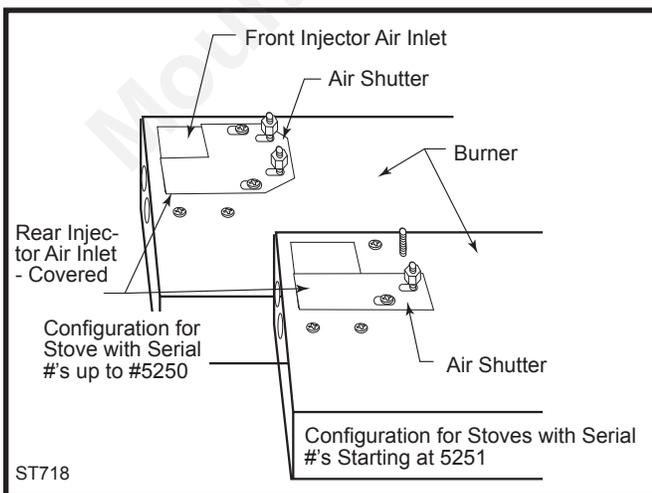
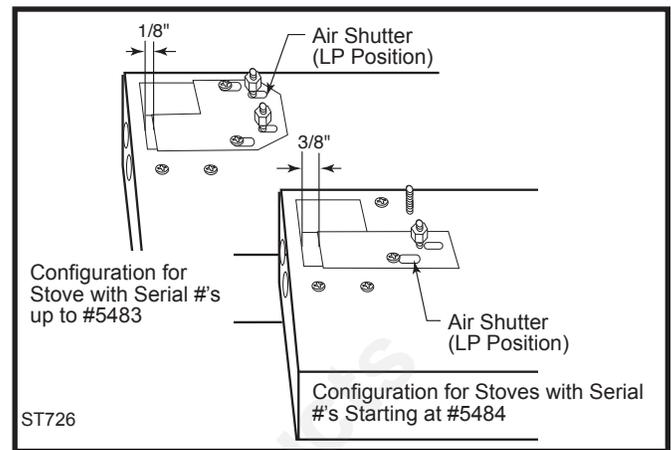

Fig. 33 Natural gas air shutter setting.
Fig. 34 LP air shutter settings.
16. Adjust air shutter on the burner. The air shutter is located on the bottom of the burner on the left. (Fig. 33) Loosen the two nuts holding the shutter in place. On natural gas units, the shutter is shipped fully closed. To convert to LP, reset the shutter as specified in Table 2. (Fig. 34) On propane unit the shutter is set at 1/8" or 3/8" opening depending on rating plate serial number. To convert to natural gas, the shutter should set to fully closed. Refasten the two nuts.